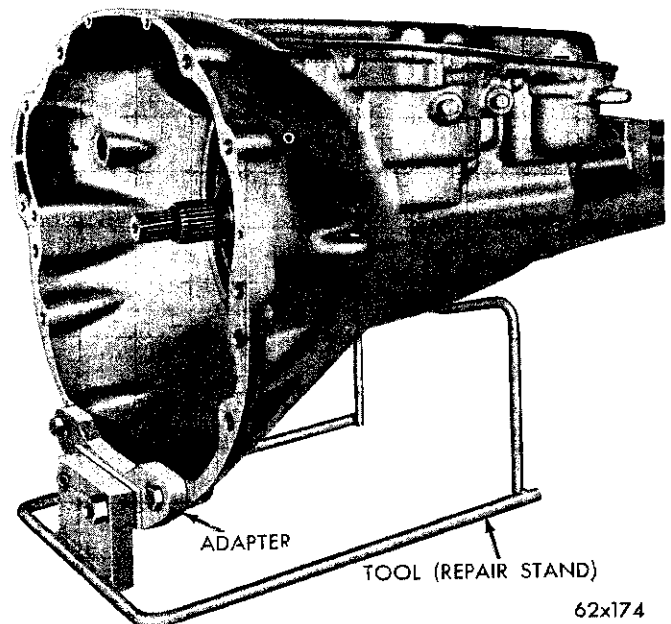

Fig. 51—Transmission Installed in Repair Stand
(1) Place the transmission assembly in repair stand, Tool C-3750 with adapter C-3882 (Fig. 51).
(2) Unscrew the oil pan bolts and remove the oil pan and gasket.